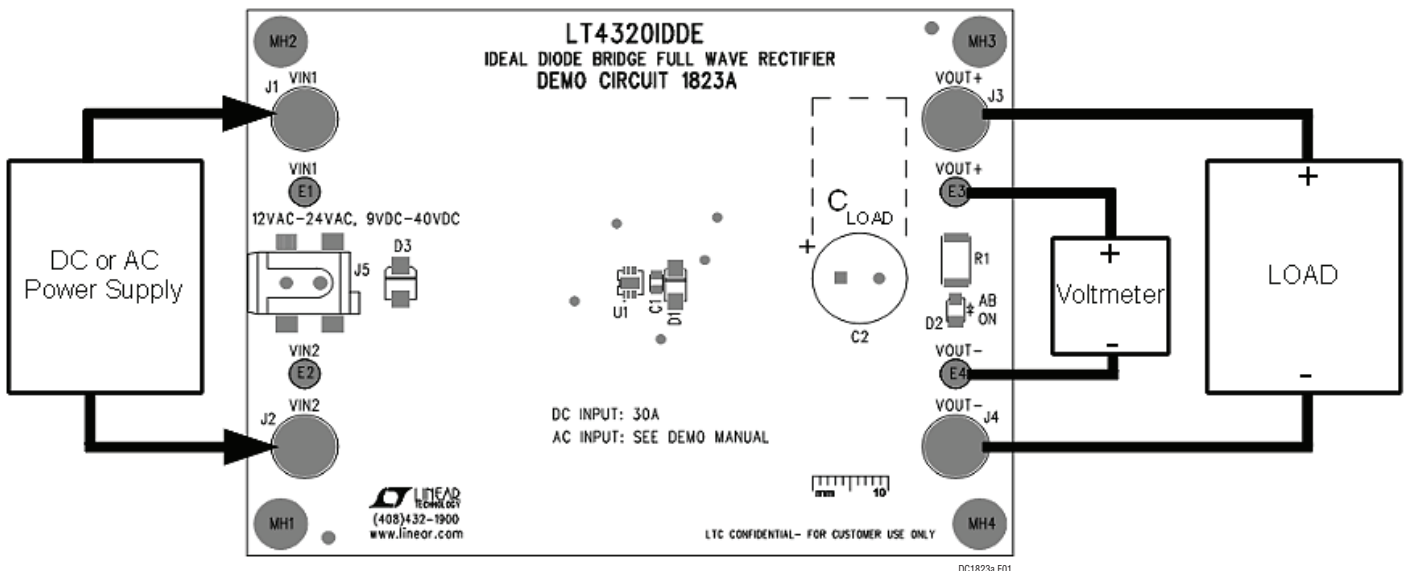

Figure 1. DC1823A Setup
1. Connect a DC or AC power supply to VIN1 and VIN2 in any polarity as shown in Figure 1. Make sure the output voltage of the DC or AC power supply is within the input voltage range of the DC1823A as shown in Table 2.
2. Connect a load and a voltmeter across VOUT+ to VOUT- as shown in Figure 1.